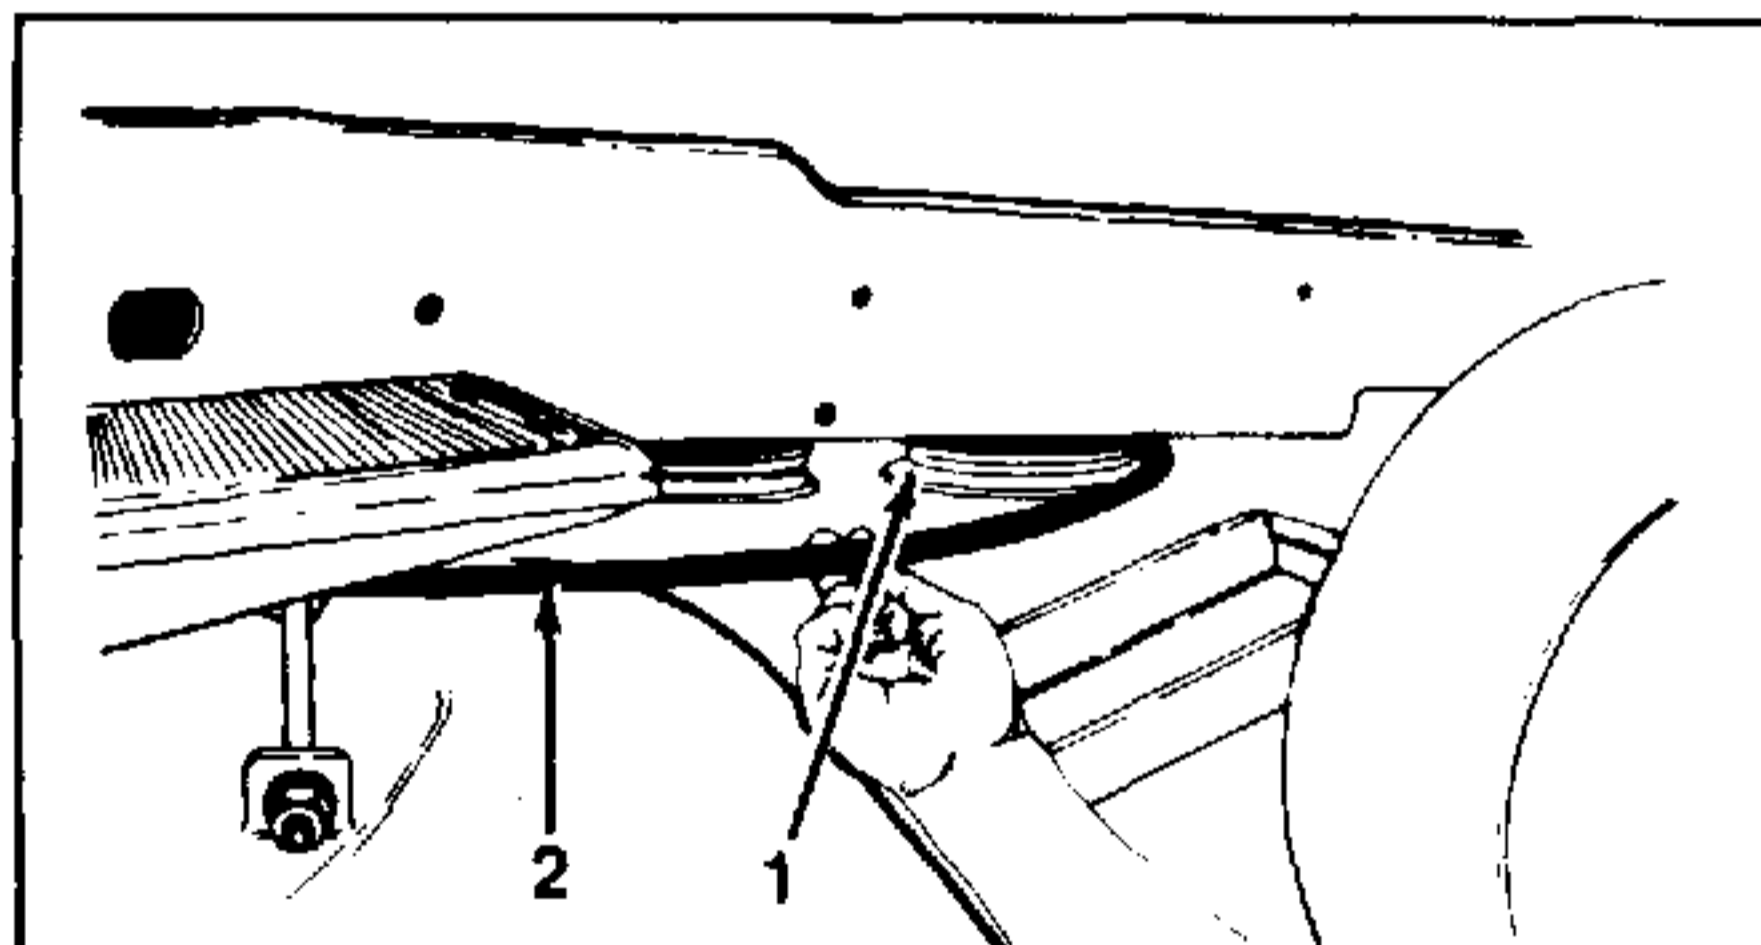

FIGURE 11.
13. Slip drive belt over electric PTO pulley on tractor. Refer to figure 11.